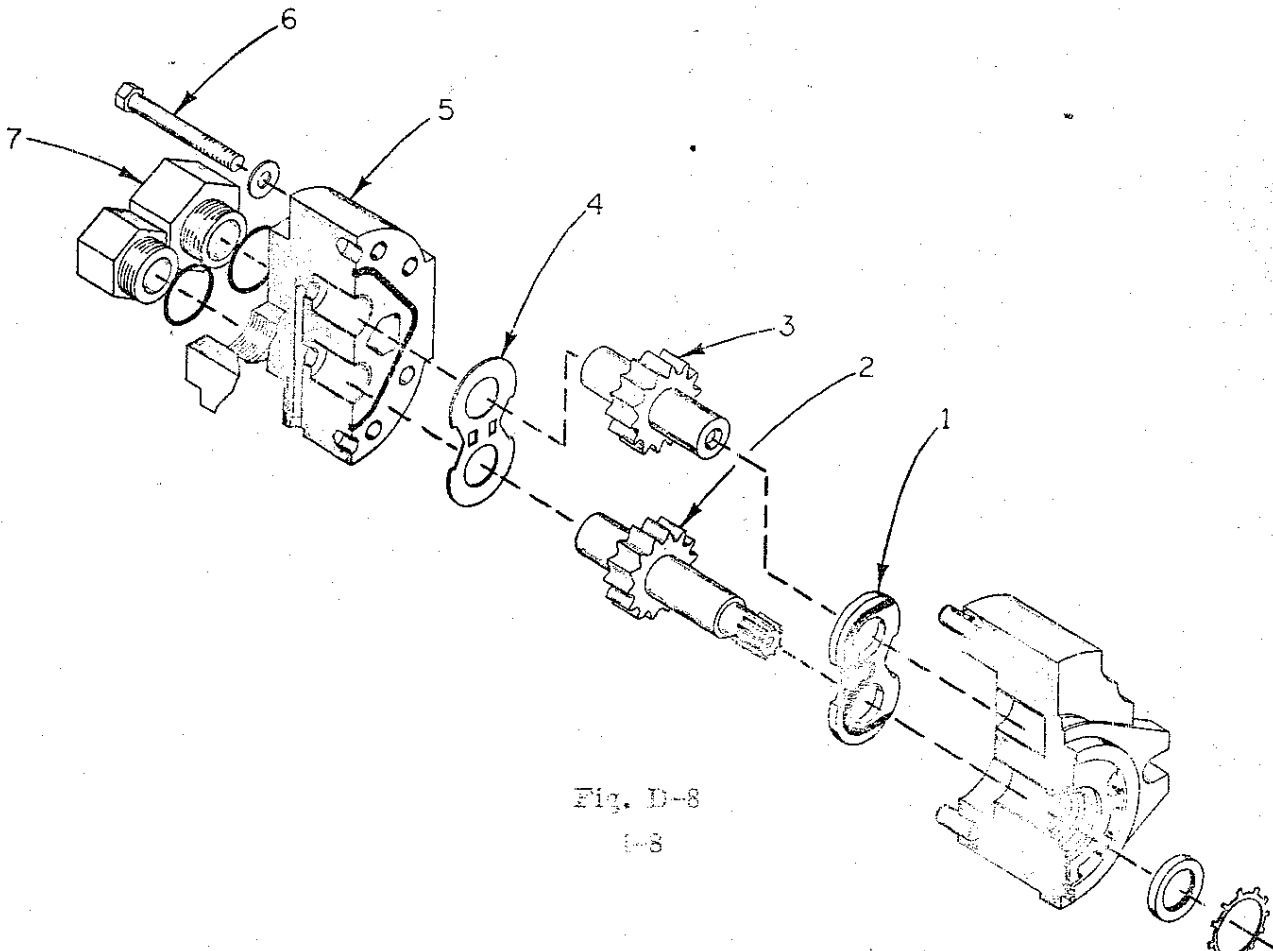

Fig. D-8
4. Install pump, insure that correct rotation is employed. See Hydraulic Pump (Fig. D-8 page 4-8).